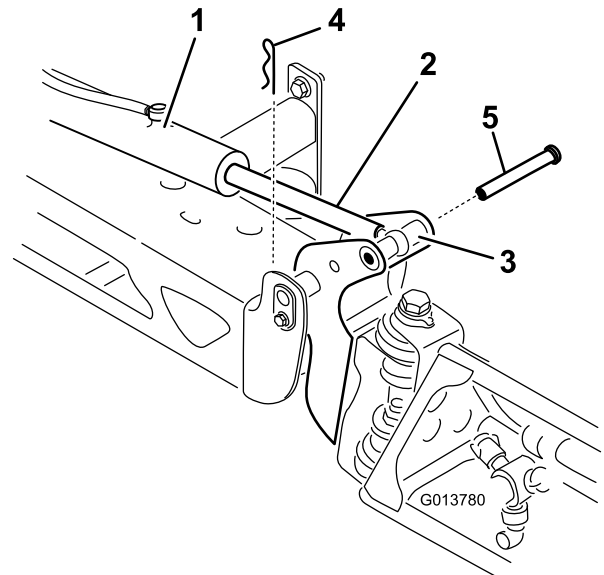

Figure 63
2. Remove the cotter pin from the pivot pin (Figure 63).
3. Lift up on the boom and remove the pin (Figure 63), and slowly lower the boom to the ground.
- While holding the boom, insert the pin through both boom pivot and actuator rod (Figure 63).